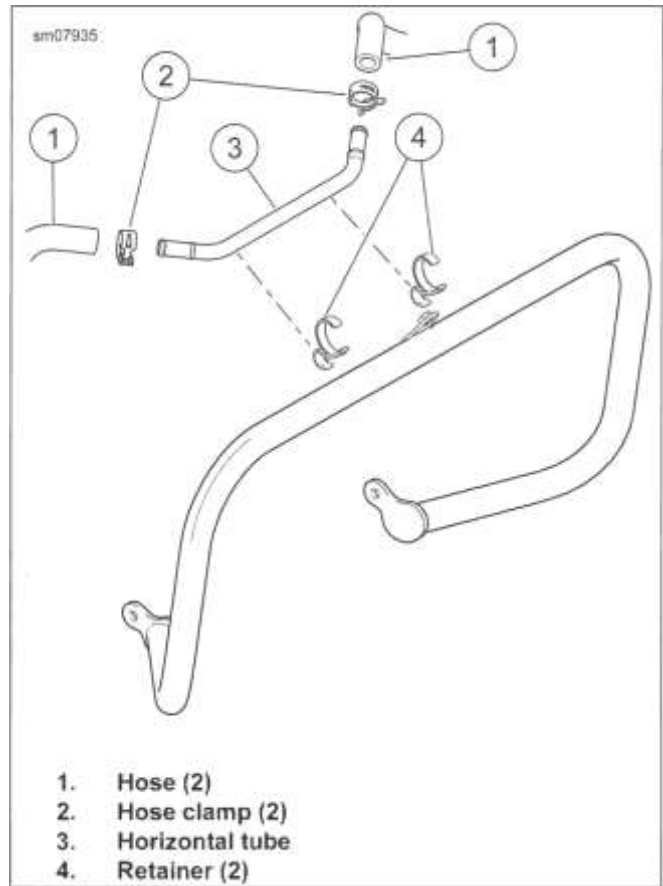

Figure 7-11. Coolant Horizontal Line
1. See Figure 7-11. Release retainers (4).
2. Remove clamps (2).
3. Disconnect hoses (1). Remove horizontal tube (3).
1. See Figure 7-11. Place horizontal tube (3) in position. Connect hoses (1).
2. Install retainers (4)
3. Install clamps (2).